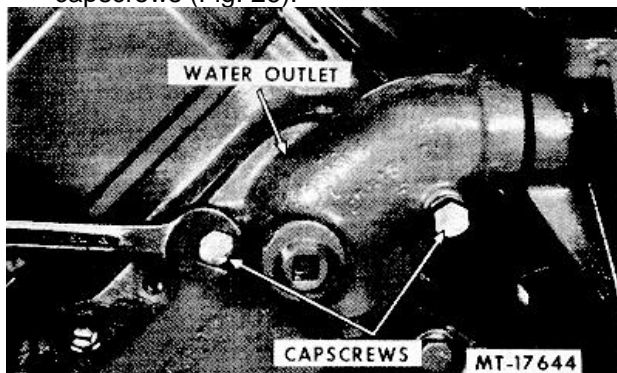

Fig. 26 Removing Right Bank Water Outlet
25. Remove right bank water outlet by removing capscrews (Fig. 26).